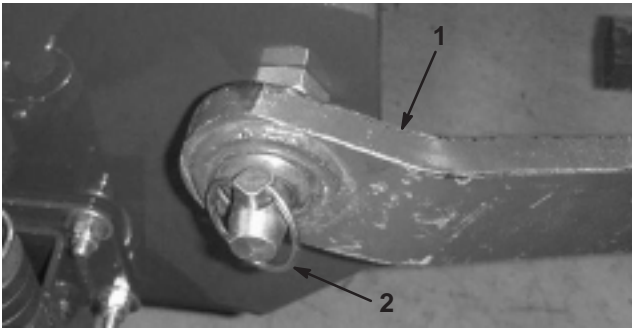

Figure 2
5. Insert the right and left lower link arms onto the hitch pins (Fig. 2).
- 6. Secure the lower link arms to the hitch pins with the lynch pins (Fig. 2).